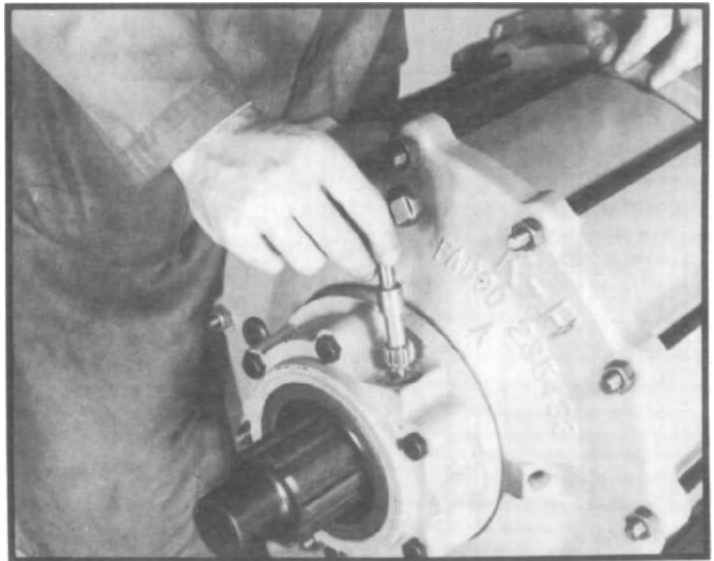

Fig. 110
- 1.17 Install speedometer driven gear to mesh correctly with drive gear. (See fig. 110.)